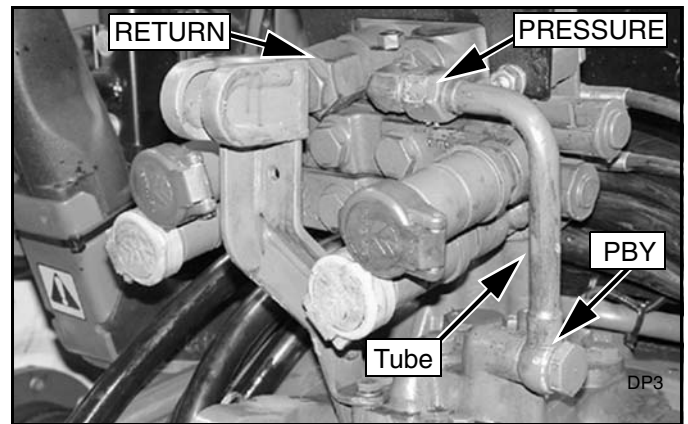

Figure 45. Tractor Hydraulic Connections
2. Remove tube and fittings from the PBY, PRESSURE, and RETURN ports shown in Figure 45.
3. Install adapter (4) in the PBY port, adapter (3) and elbow (5) in the RETURN port and elbow (6) in the PRESSURE port.
4. Attach straight end of hose (1) to the PBY port on the control valve.
5. Attach 90° end of second hose (1) to the OUT port on the control valve.
6. Attach one end of hose (2) to the IN port on the control valve.
8. Attach straight end of hose (1) from the OUT port on the control valve to the elbow (5) in the RETURN port on the back of the tractor.
9. Attach end of hose (2) from the IN port on the control valve to the PRESSURE port on the back of the tractor.
10. Attach 90° end of hose (1) from the PBY port on the control valve to the PBY port on the back of the tractor.